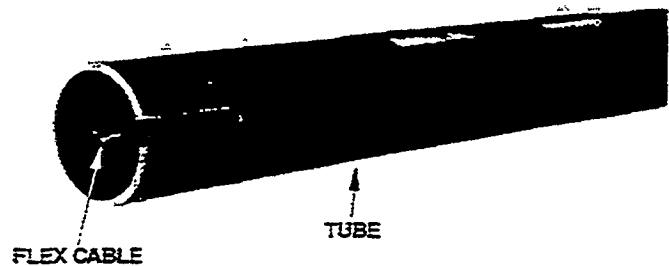

Figure 40
- **Note:** After assembly, the flex cable should not stick out beyond the slotted tube end. If it does, push the cable in as far as it will go (Figure 40).